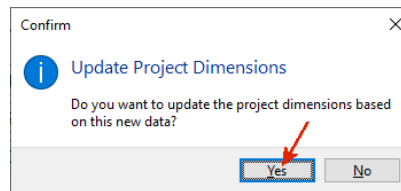

Figure 47
- Because the “*File contains column titles.*” option is checked, and the Excel column titles correspond to the RockWorks database field names, you can step through the remaining dialogs until you are presented with a menu (Figure 47) that asks if you want update the *Project Dimensions*.